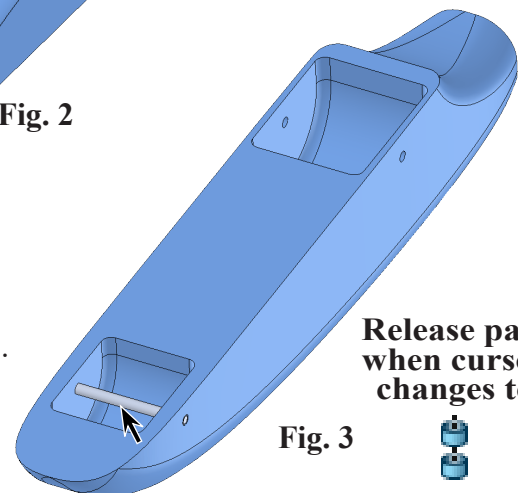

Fig. 3
Step 4. Rotate view to view **bottom of body**, hold down middle mouse button (wheel) and drag to rotate view, **Fig. 3**. Be careful **do not** click the graphics area.
Step 7. Position the Front Axle near Front Axle hole, **Fig. 3**. When Axle snaps into place and cursor changes to indicate Concentric mate , click to release Axle.